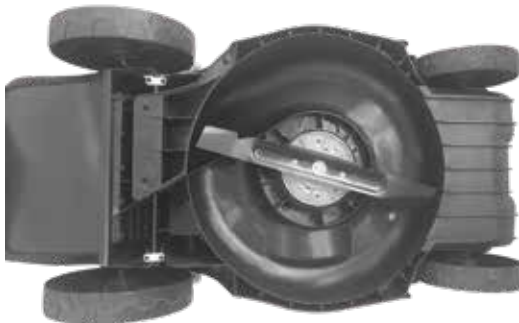

FIG.8
4. Loosen the hex bolt counterclockwise using the supplied hex wrench and remove it together with the washer and the blade (Fig. 8).